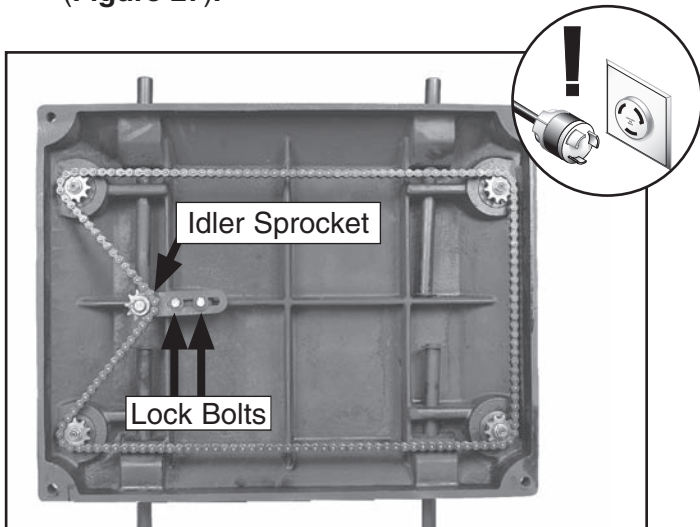

Figure 27. Underside of table.
Chain: The table height adjustment chain (see **Figure 27 on Page 28**) should be inspected monthly and lubricated with general purpose grease when needed.
3. Loosen the two lock bolts and move the idler sprocket against the chain to tighten it (Figure 27).